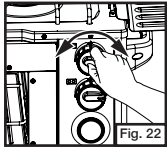

Fig. 22
- Adjust flame with control knob. (Fig. 22, 23) Flame should be blue with a hint of yellow on tips.